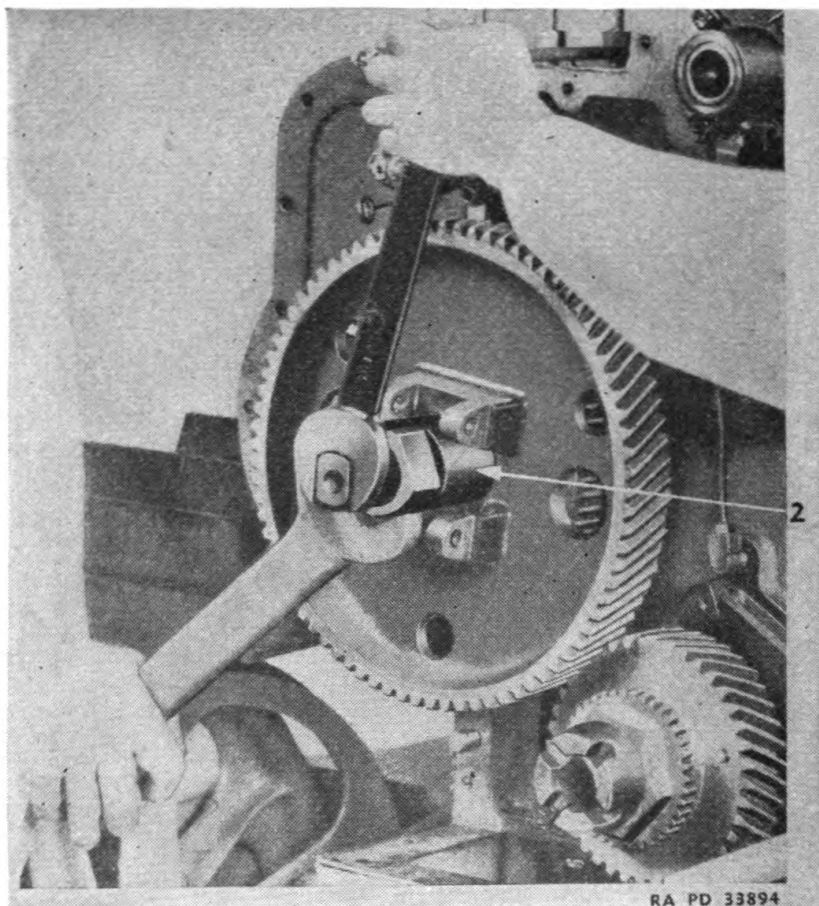

FIGURE 43.—Wrench method of pressing gear on shaft.
b. There are left-hand threads on the outside of the stud and on the inside of the nut (2) used for installing the camshaft gear. When a wrench (fig. 43) is used on the nut to press the gear on the shaft, a wrench should be used on the stud to hold the shaft from turning.
b. Bearings.—(1) Ordinarily, an inspection of the camshaft bearings at the time the engine is removed for reconditioning should be sufficient.